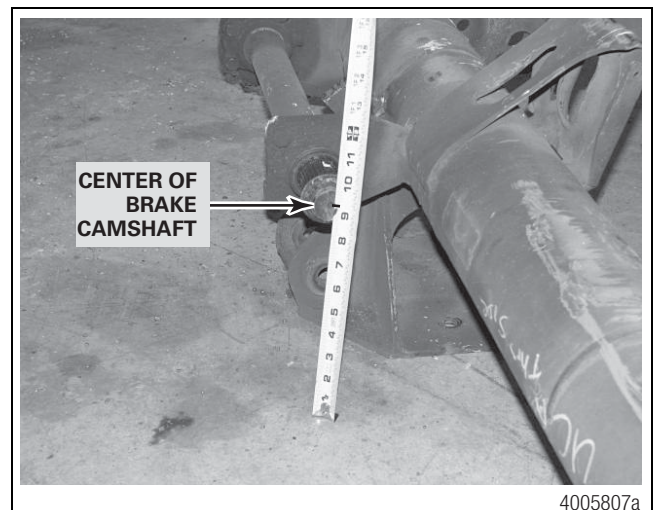

Figure 14
4. Confirm the axle clocking position by measuring from the flat surface that the axle seats are on to the center of the camshaft. This distance must be nine-inches (229 mm). Figure 14.